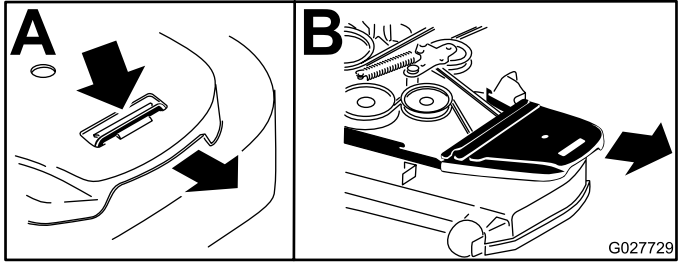

Figure 72
5. Remove the plastic belt cover (Figure 72).
6. Remove the belt covers (Figure 72).